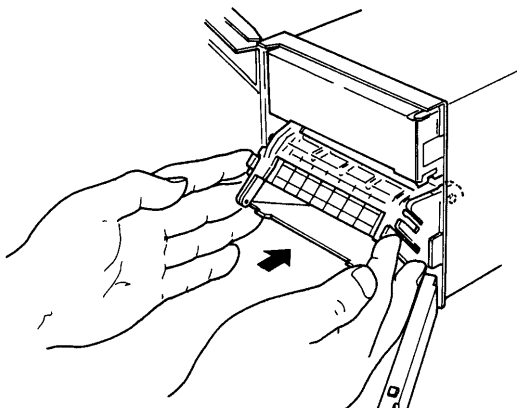

Figure 5.6
- 10 Replace the chart paper compartment back into the unit. Slide the protruding knurls of the chart paper compartment into the cutout grooves located on the support brackets. Push/swing the compartment into the unit until the lock tabs click shut (see figure 5.6).